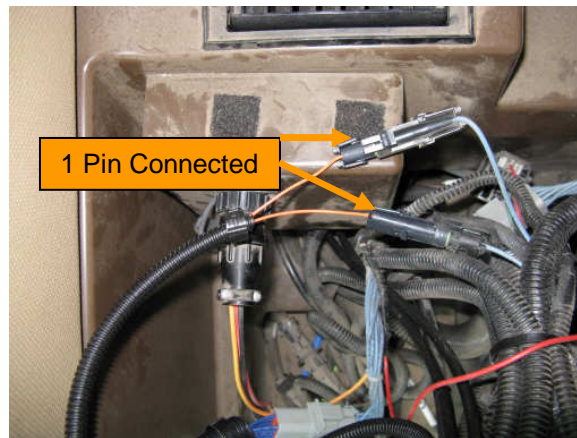

Fig. 4: Switch cables connected
6. Insert both 1 pin connectors of the AutoMate interface cable (A) into the two connections disconnected in Step 5 (Fig. 4).